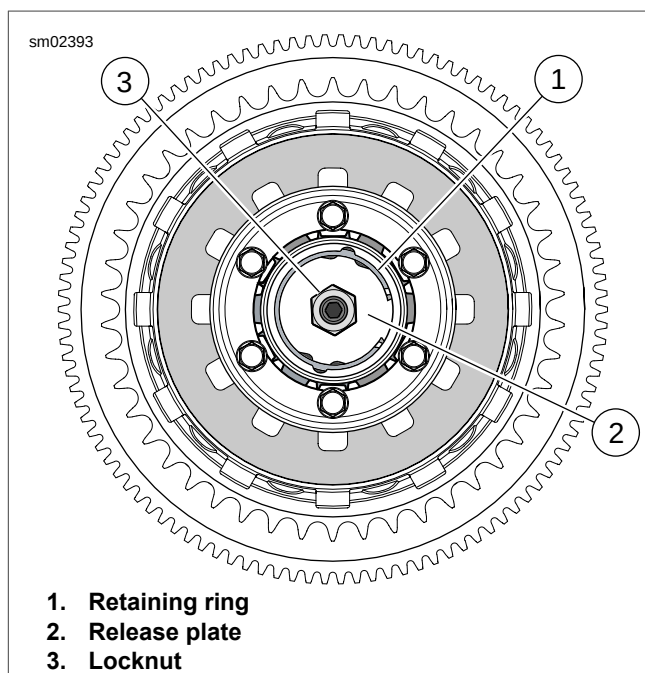

Figure 5-14. Clutch
11. See Figure 5-14. Install release plate (2) with locknut (3) and adjuster screw into clutch hub bore. The word "OUT" stamped on the release plate should face outward.